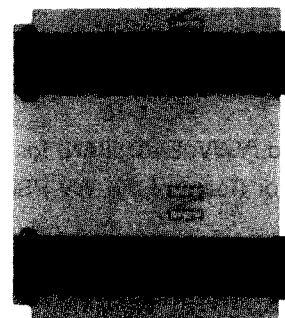

Fig. 1-3
- Extension Board (Part Number: YWV0EA0288AN) for Power Board and Digital Process Board as shown in Fig. 1-3.